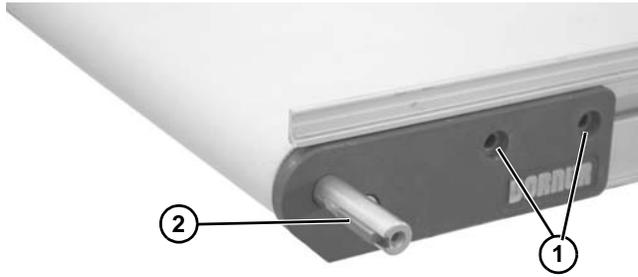

Figure 5
1. Locate drive output shaft. Remove two screws (**Figure 5, item 1**).
2. Install key (**Figure 5, item 2**) and rotate conveyor belt until key is facing towards end of conveyor.